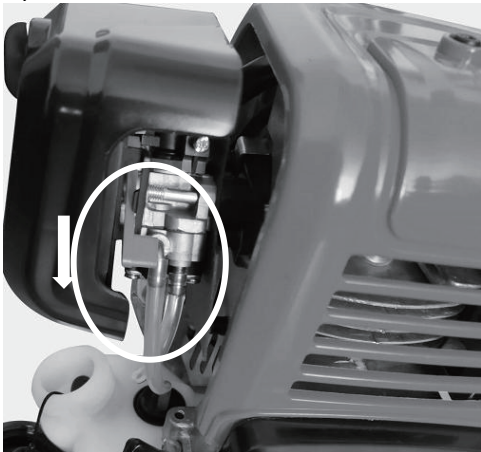

Fig.16
- 5) Turn the choke lever to the run position as the engine started.(Fig.16)